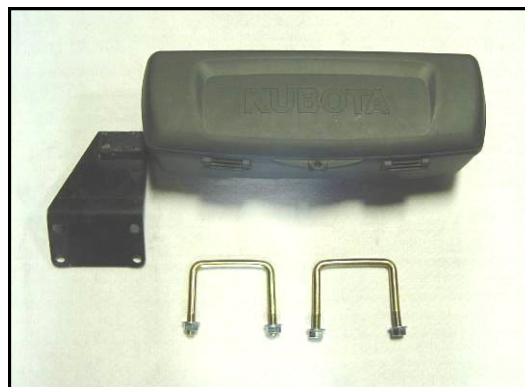

Fig. 1.2 (toolbox)
1.2 Per fig. 1.2, remove the toolbox from the ROPS (roll-over protective structure). The tool box does not get re-installed with the cab in place. Save for re-use should the cab ever be removed.